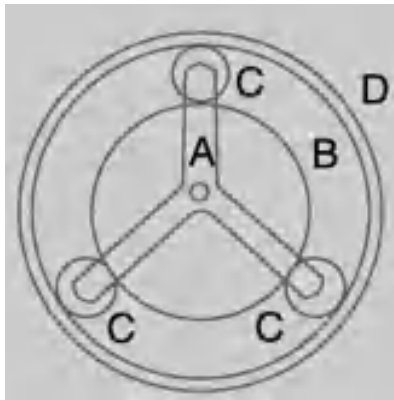

Fig 3
b) In an epicyclic gear of the 'sun and planet' type shown in Fig. 3, the pitch circle diameter of the internally toothed ring is to be 224 mm and the module 4 mm. When the ring D is stationary, the spider A, which carries three planet wheels C of equal size, is to make one revolution in the same sense as the sun wheel B for every five revolutions of the driving spindle carrying the sun wheel B. Determine suitable numbers of teeth for all the wheels. 8M